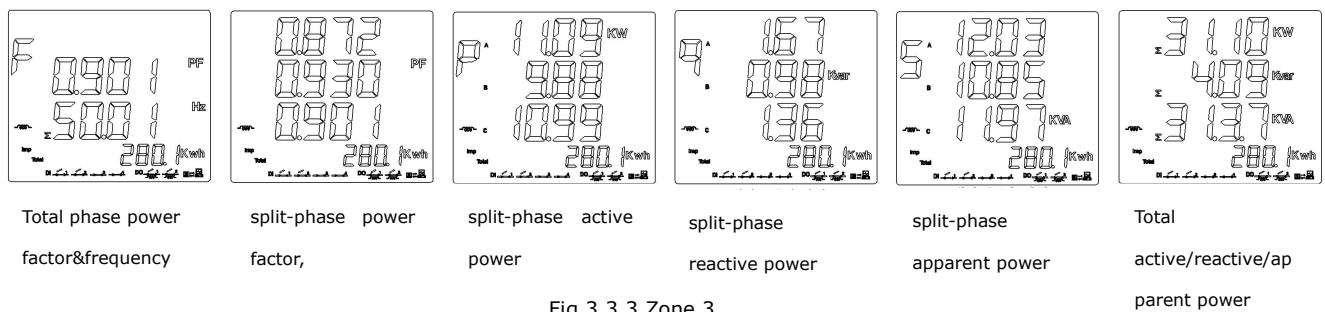

Fig.3.3.3 Zone 3
*Pls notice when 3 Phase 3 Wire,it can only display Total phase power factor&frequency, total active power, total reactive power, total apparent power. Reference fig.3.3.3